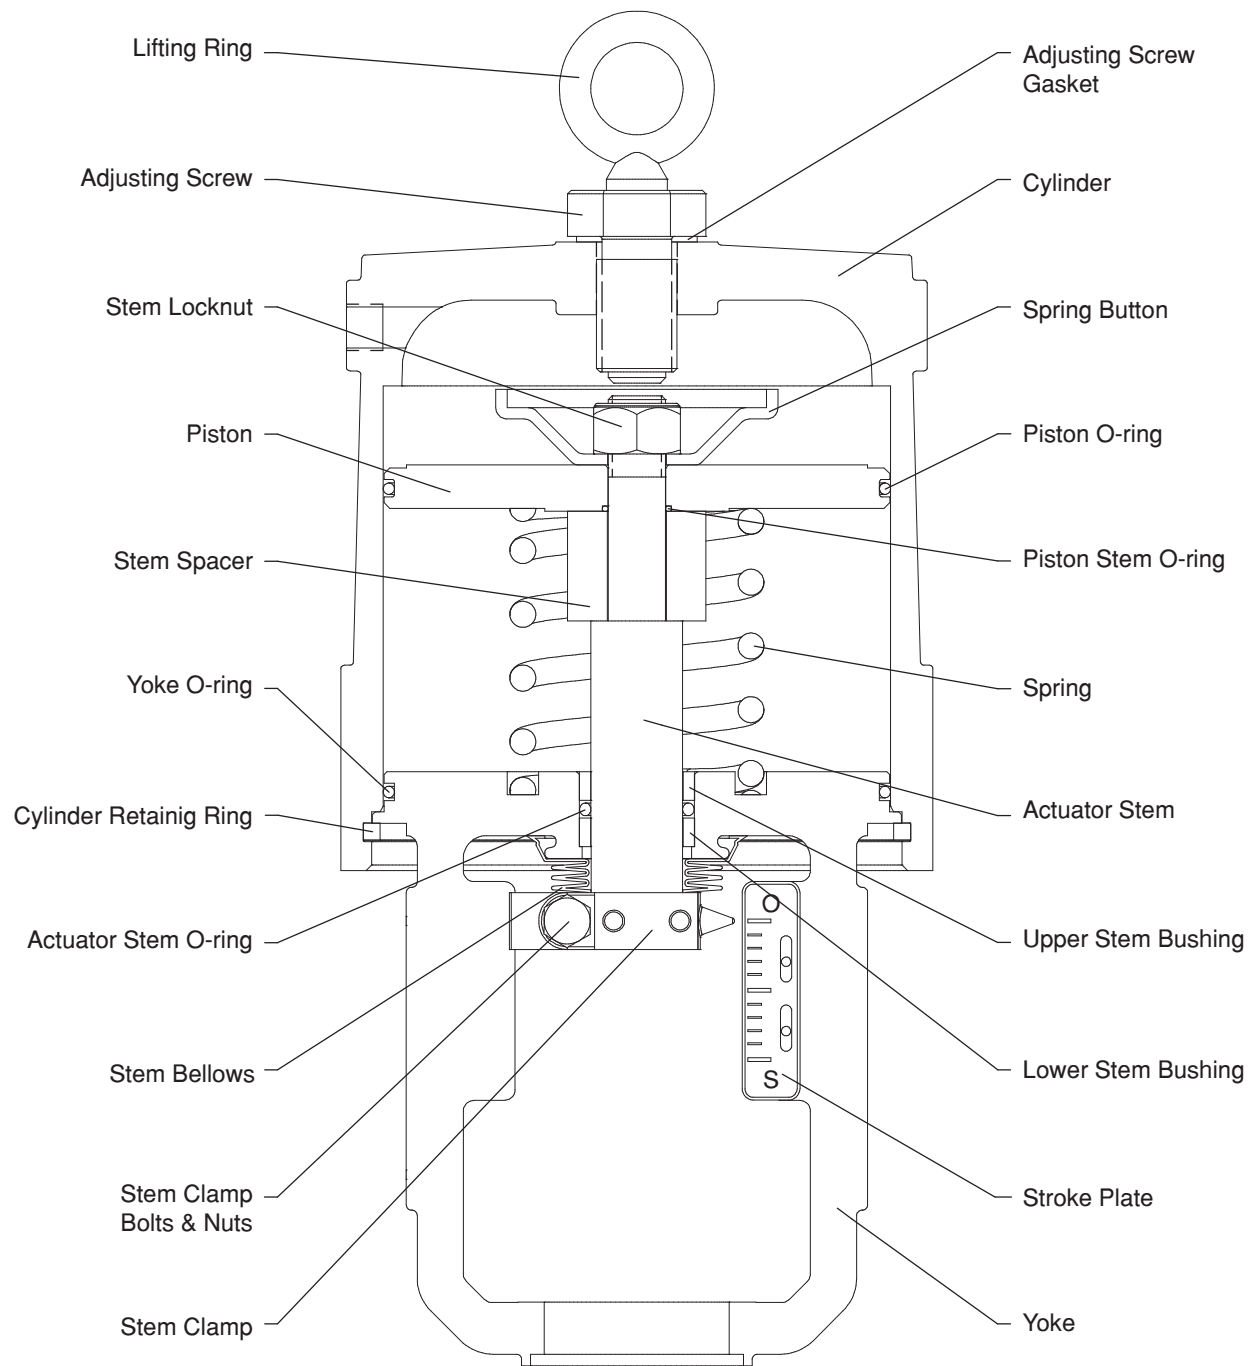

Figure 3 - Spring-Cylinder Actuator (Air-to-Extend)
- In the “air-to-extend” configuration (Fig. 3), slowly release and remove the actuator stem locknut, making sure that the piston follows the locknut and is not jammed on the actuator stem. Remove the stem locknut, spring button, piston, spring and stem spacer.